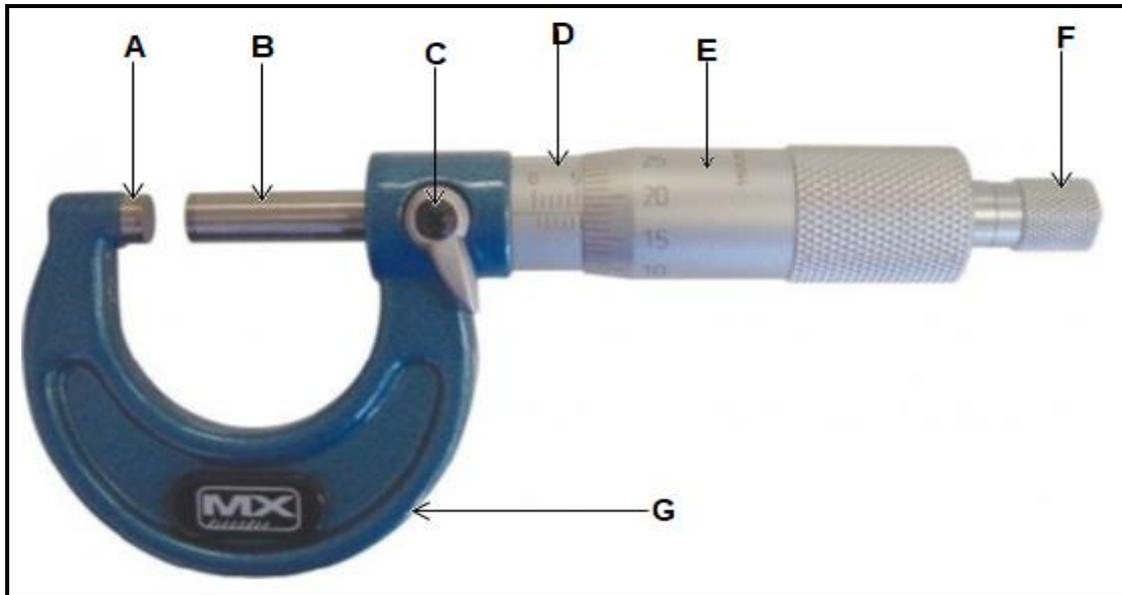

FIGURE 5.1
5.1 The diagram in FIGURE 5.1 below is a precision measuring tool, use it to answer the questions that follow.
- 5.1.1 Identify the precision tool indicated in FIGURE 5.1 above. (1)
- 5.1.2 Label parts **A–G** in the FIGURE 5.1 above. (7)
- 5.1.3 What is the function of the tool in FIGURE 5.1 above? (1)